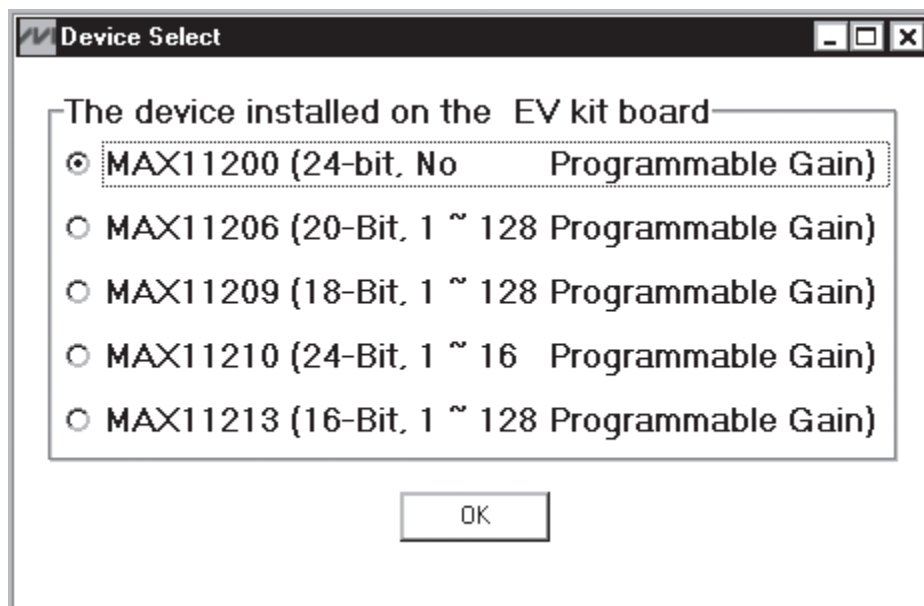

Figure 1. MAX11200/MAX11206/MAX11209/MAX11210/MAX11213 EV Kit Software (Device Select Window)
- 8) A **Device Select** window pops up. Select the device variant installed on the EV kit board and press the **OK** button (Figure 1).